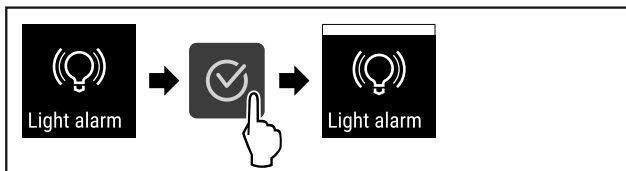

Fig. 117
- ▶ Complete steps (see Fig. 117) .